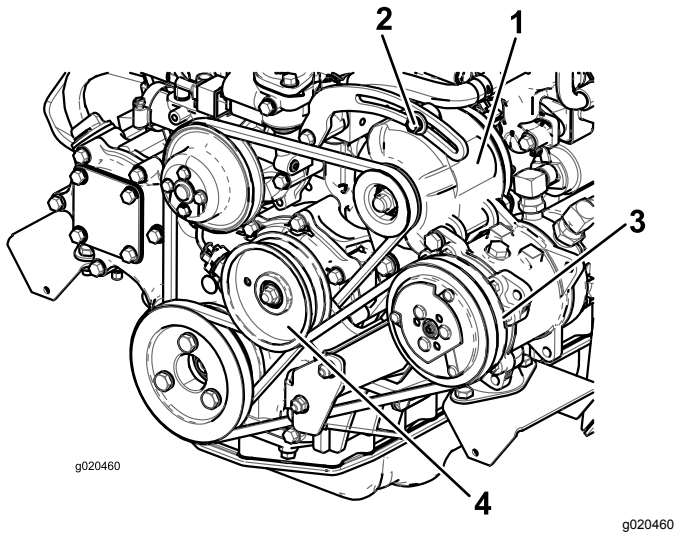

Figure 100
If the deflection is not 10 mm (3/8 inch), loosen the alternator-mounting bolts (Figure 100).
Check the condition and tension of the belt (Figure 100) after every 100 operating hours.
2. If the deflection is not 10 mm (3/8 inch), loosen the idler pulley mounting bolt (Figure 100). Increase or decrease the compressor belt tension and tighten the bolt. Check the deflection of the belt again to ensure that the tension is correct.